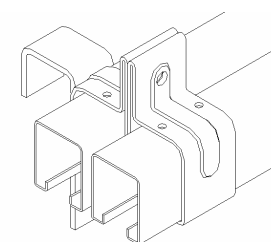

Fig. 2-1
- Slide the Slide Track inside one of the openings in the Slide Bracket. See Figure 2-1 for reference.
- Insert the other Slide Track inside the other opening in the Slide Bracket. See Figure 2-1 for reference.